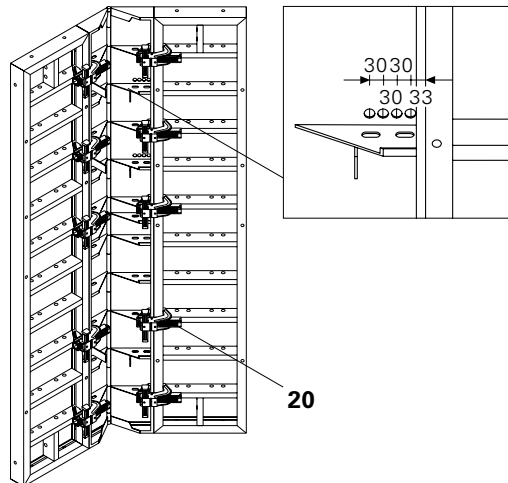

Fig. B1.05
Panel connection per side with 5 x Alignment Coupler BFD (20). (Fig. B1.05)